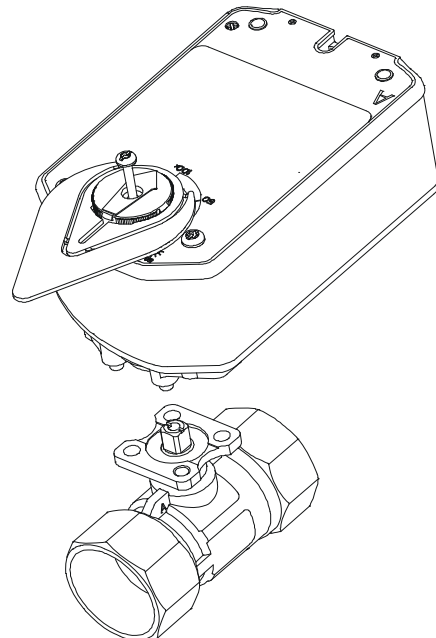

Figure 9: Mount the Actuator
7. Install the actuator on the ball valve (Figure 9). Tighten the actuator mounting screw to a torque of 10 to 12 lb-in. (1.1 to 1.4 N-m) and snap in the large adjustable pointer into place.